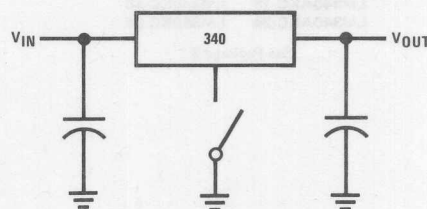

FIGURE 2. Regulator Floating Ground
**Regulator Floating Ground (Figure 2):** When the ground pin alone becomes disconnected, the output approaches the unregulated input, causing possible damage to other circuits connected to  $V_{OUT}$ . If ground is reconnected with power "ON", damage may also occur to the regulator. This fault is most likely to occur when plugging in regulators or modules with on card regulators into powered up sockets. Power should be turned off first, thermal limit ceases operating, or ground should be connected first if power must be left on.